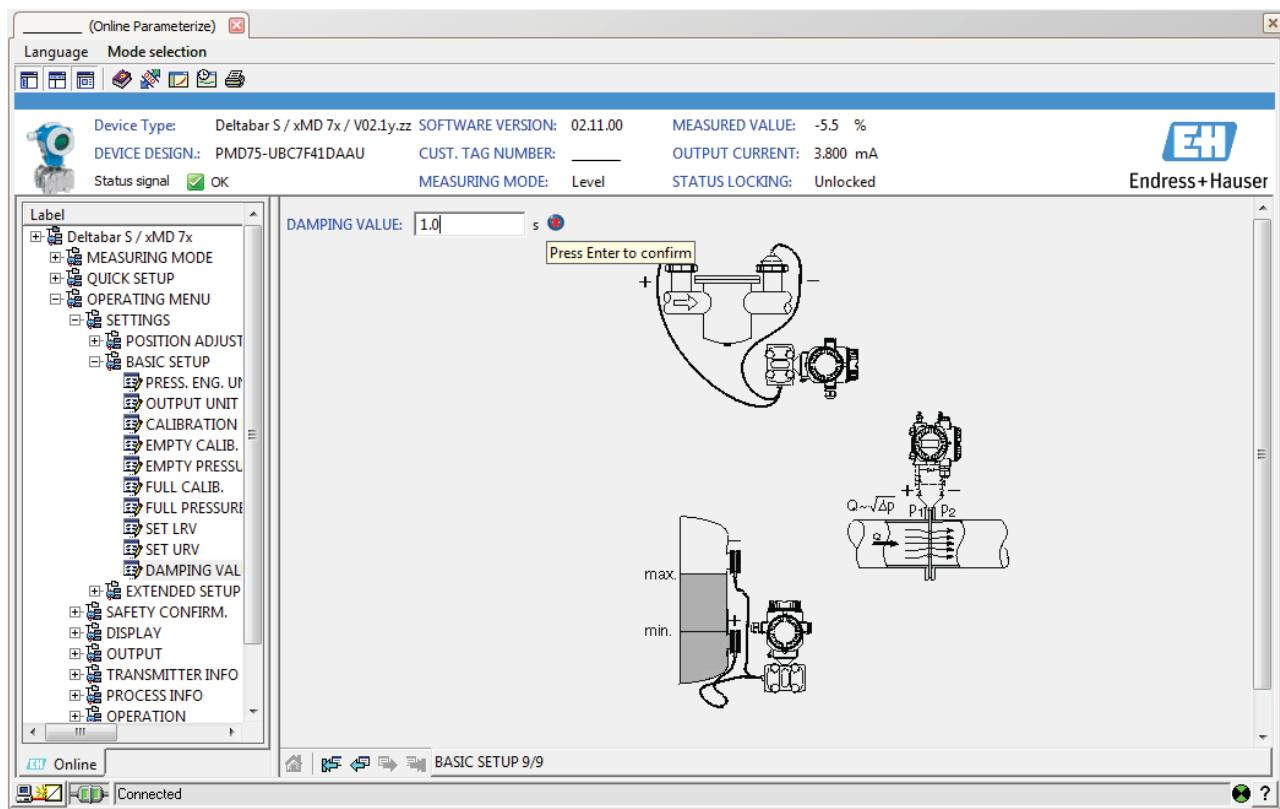

Figure 2-13. Damping value.
11. A greater damping value reduces the oscillation amplitude of the measured value. Go to **OPERATING MENU** ▶ **SETTINGS** ▶ **BASIC SETUP** ▶ **DAMPING VALUE**. Modify the damping value from to 1.0 s. Press *Enter* to confirm the command (Figure 2-13).